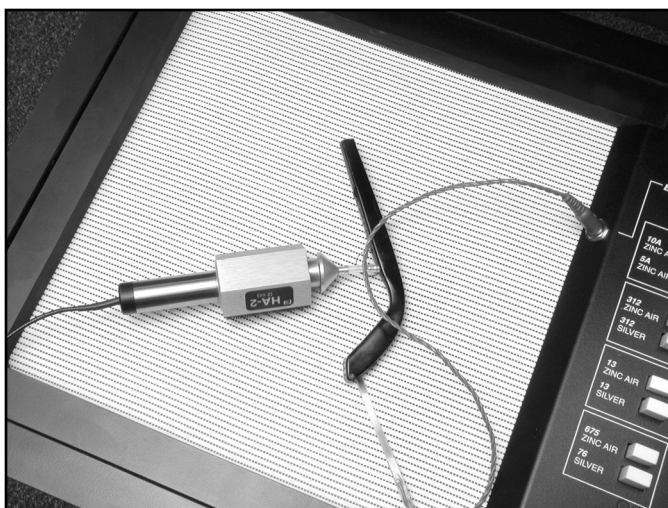

Figure 3.3.6—Eyeglass Aid Set-up
3. Couple the aid to the 2-cc coupler using the BTE aid adapter and the appropriate tubing, as shown in Figure 3.3.6.
4. Position the microphone of the aid as close as possible to the reference point in the test chamber, as shown in Figure 3.3.6.